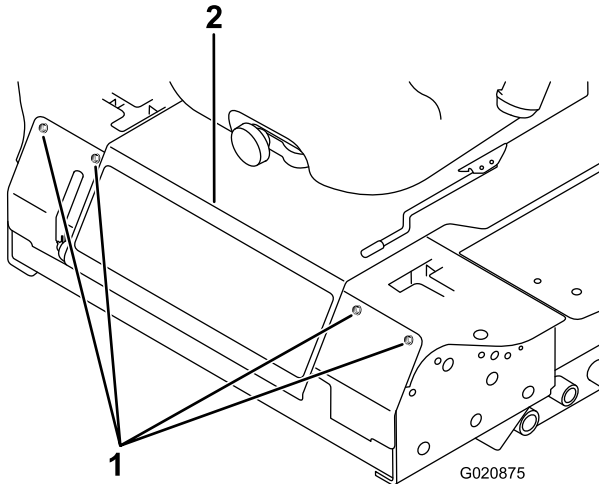

Figure 50
2. Remove the bolts securing the front panel and remove the panel (Figure 50).